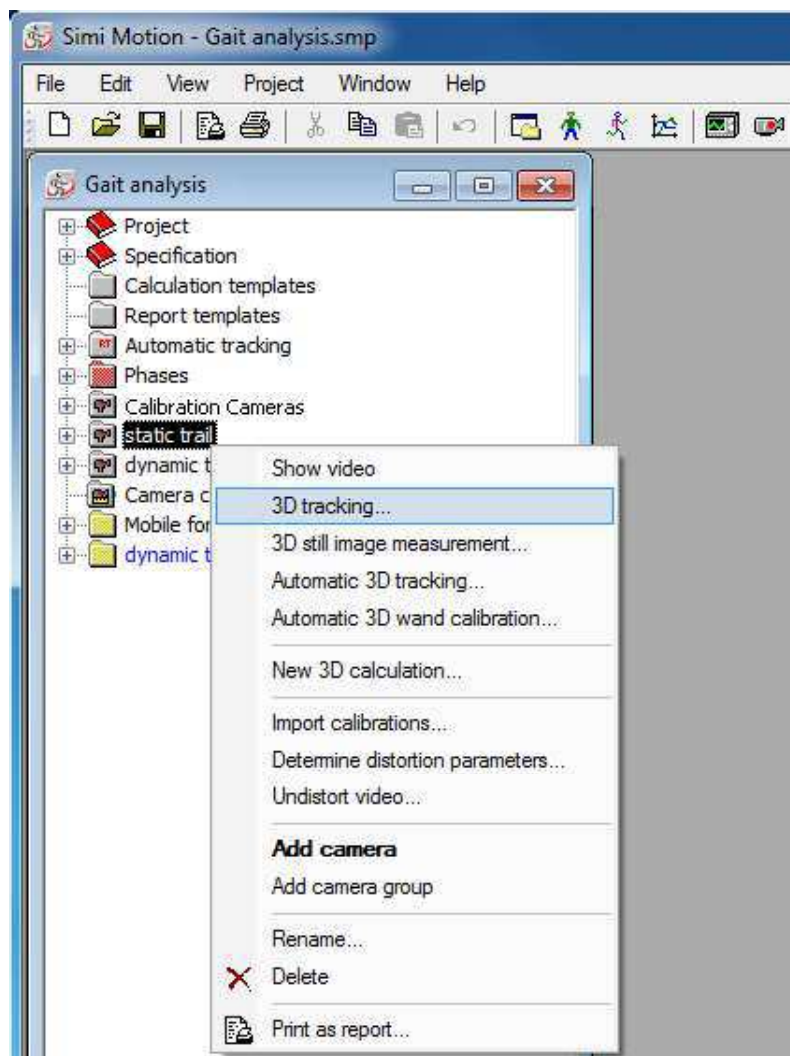

Figure 17.29: 3D Tracking
- Select  > Static Data > 3D-Tracking... (cf. figure 17.29)